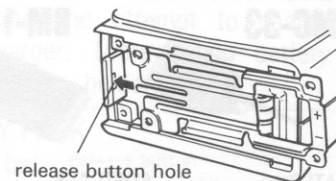

Fig 4.
10. Fit the end of the terminal plate into the release button hole and tighten the screws (Fig. 4).